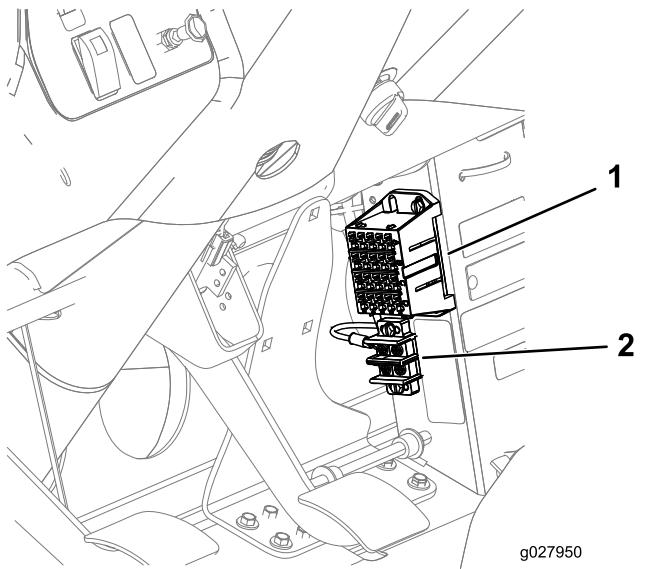

Figure 34
2. Connect the ring terminal on the harness to the grounding block and insert the fuse-block connector into an available fuse-block connection (Figure 34).